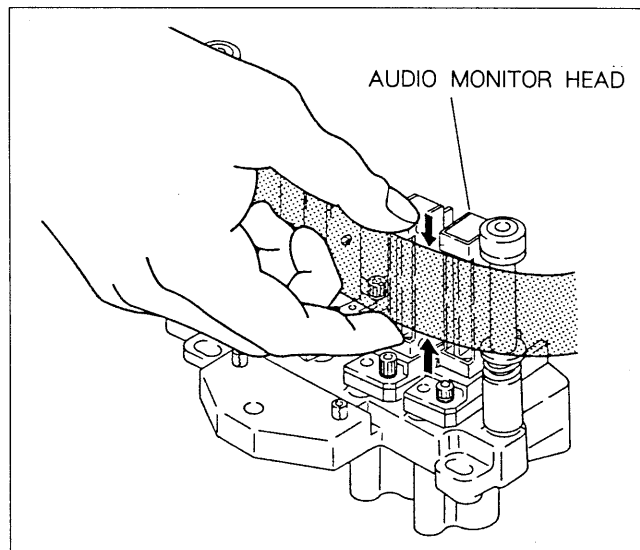

Fig. 9-8-3. Audio Monitor Head Height Check
- (2) Set the time base of oscilloscope to 500 μ secs.
- (3) Push up or down the tape against the monitor head during playback as shown in Fig. 9-8-3. Check that the CH-1 output is decreasing from the maximum level when the tape has been pushed both upward and downward.